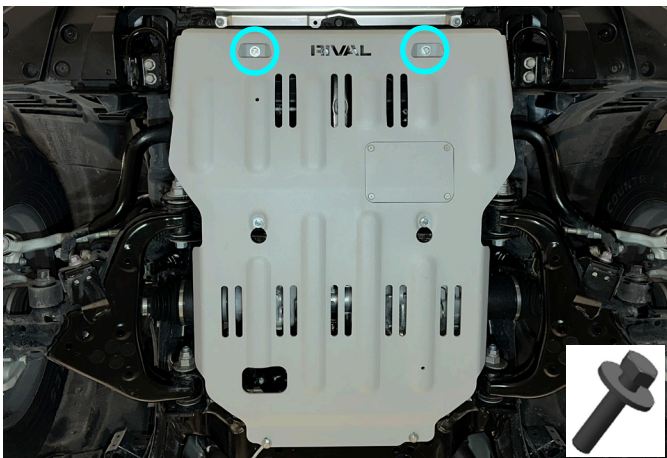

Fig. 3
3. Slide rear of the engine skid plate (item 1) over previously installed hardware. Secure the front of the skid plate using M8x30 bolts and M8 washers (item B, C) as shown in Fig. 3.